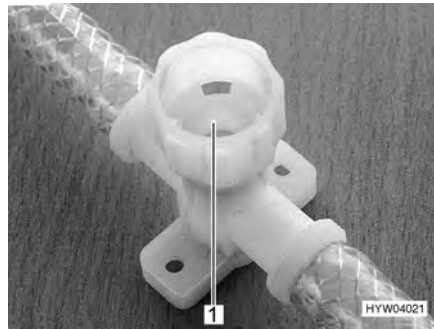

Fig. 130 Drain cock for hot water source
- Close all drain cocks. To do this, close the caps (Fig. 130,1) by turning them in a clockwise direction.
- Open all drain cocks of the hot water source. To do this turn the caps (Fig. 130,1) in an anticlockwise direction.